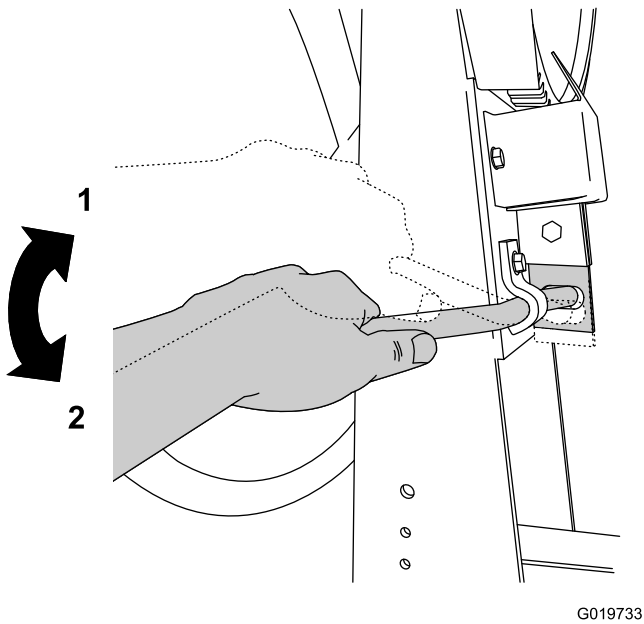

Figure 16
3. Lock the drum into position by pushing down the drum-tilt-brake handle (Figure 16).